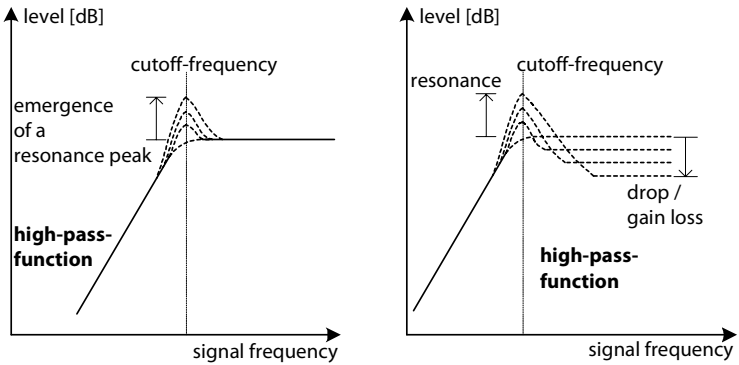
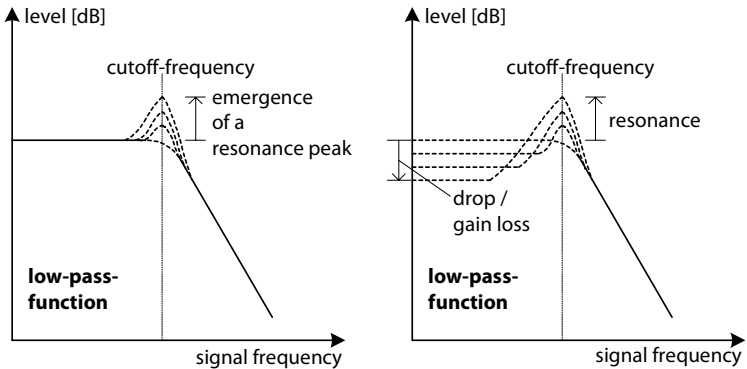

Fig. 4a HDH6 high-pass function, resonance and drop
Fig. 4b VDL6 low-pass function, resonance and drop
Drp A, Drp B: Many filters are bringing along to increasing resonance values a concomitant damp of frequencies within the pass band. This gain loss or **drop** can be adjusted with the controllers *Drp A (7)* resp. *Drp B (8)* for the filters A and B, separately, between -24 db and 0 db for **HDH6** and between -25 db and 0 db for **VDL6**. Fig. 4a illustrates the high-pass function, the resonance and the drop for the **HDH6** whereas Fig. 4b shows that for the **VDL6**.